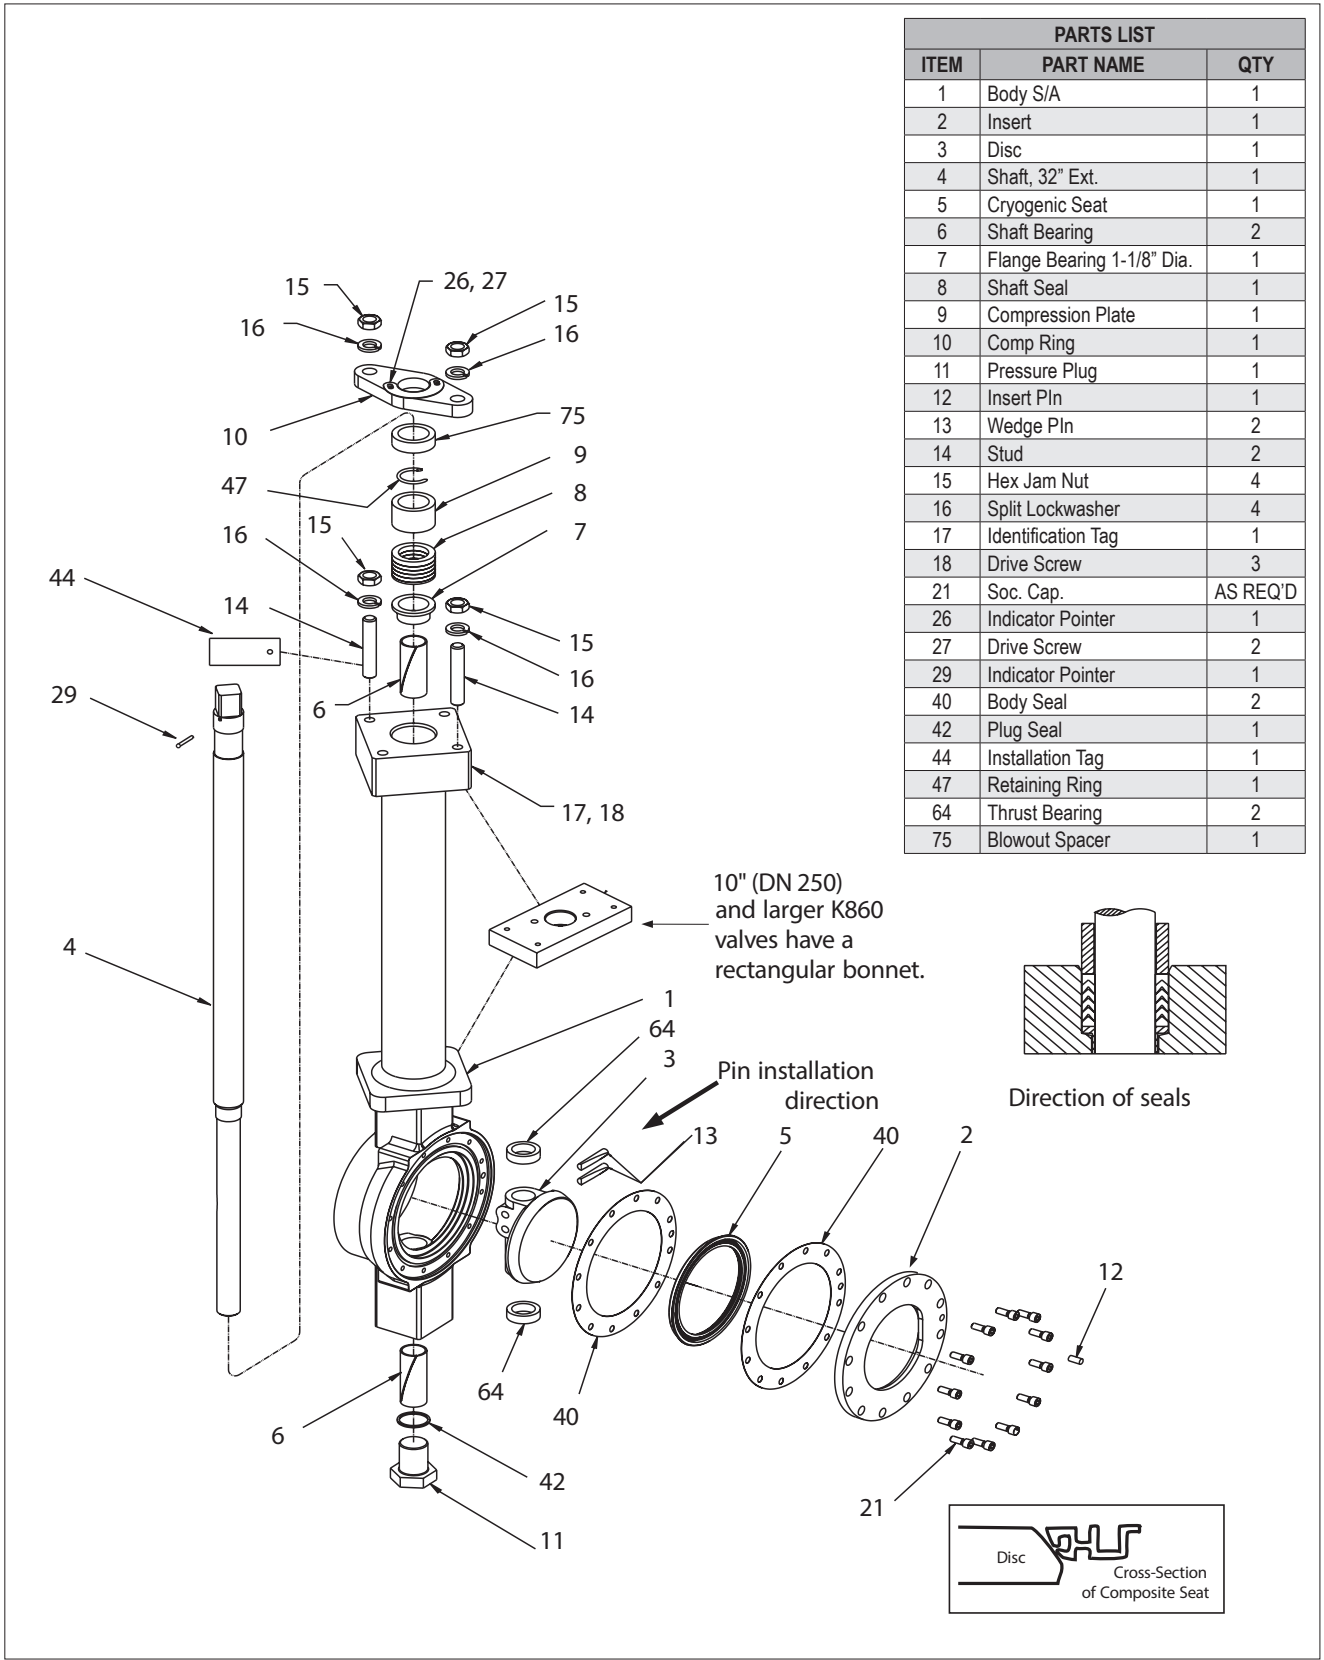

Figure 9.
9. Install the spacer (7), the packing (8), the compression ring (9) (30"– 48"(DN 350-1200) Type K815, 14"– 36"(DN 350-900) Type K830, 14"– 24"(DN 360-600) Type K860 only). If the packing is of the PTFE chevron type, be certain that it is installed in the orientation shown in **Figure 9**.